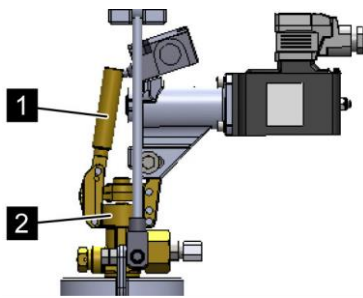

Fig. 141: Remove the valve lever
1. ➔ Unscrew the valve lever (Fig. 141/2) from the valve (Fig. 141/1) of the pilot container.